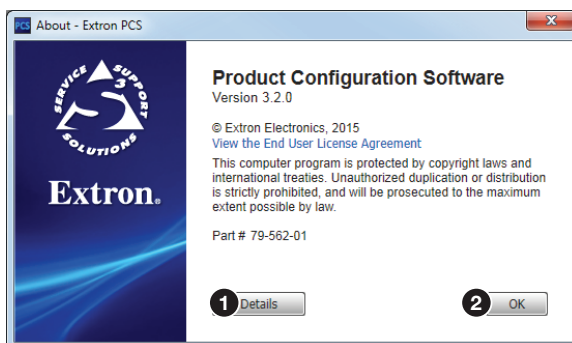

Figure 69. About - Extron PCS Dialog Box
2. Click the **Details** button (see figure 69, **1**) for more information about the software and embedded modules.